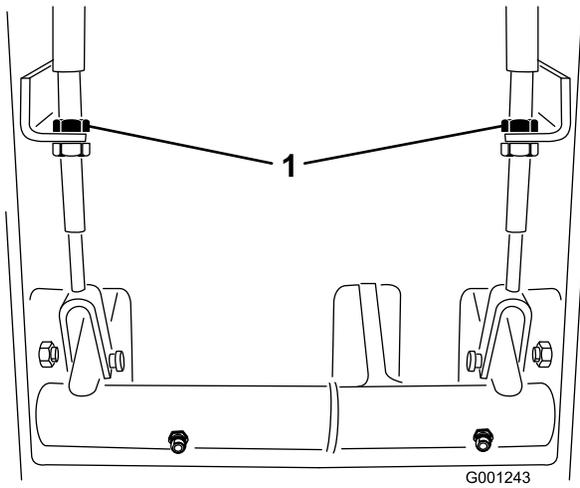

Figure 63
2. To reduce the free travel of the brake pedals, tighten the brakes by loosening the front nut on the threaded end of brake cable (Figure 63). Then tighten the rear nut to move cable backward until the brake pedals have 1/2 to 1 inch (13 mm to 25 mm) of free travel.